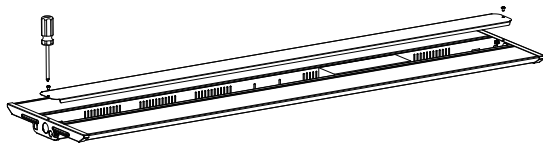

Figure 9
Step1.Open the face cover with screw driver (Figure 9);